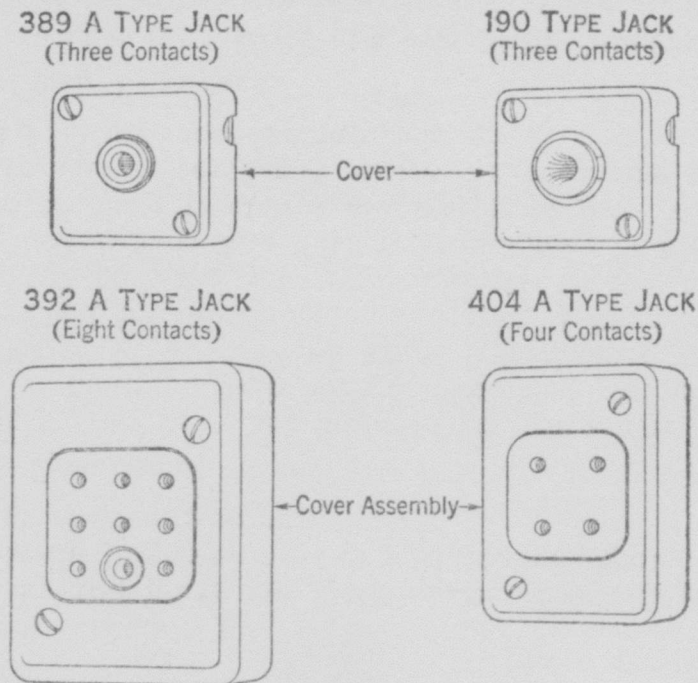

Fig. 2
2.04 Non-flush type jacks of the types referred to herein are shown in Fig. 2.